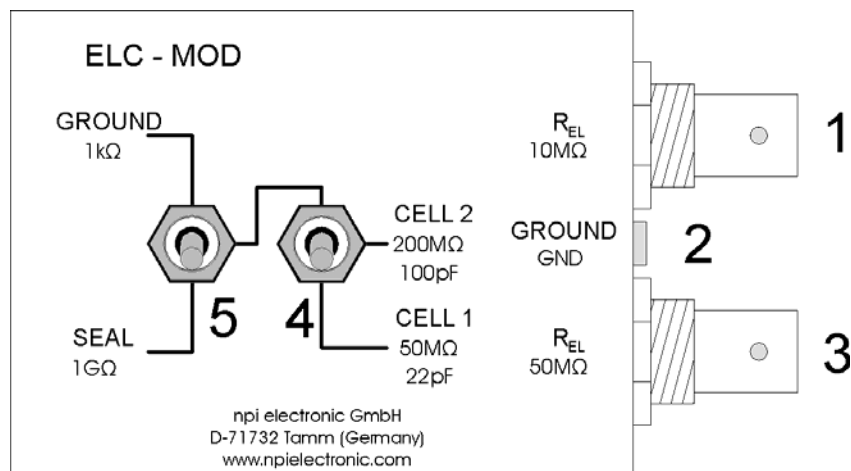

Figure 4: passive cell model
- Set switch #4, Figure 4 to the upper position.
- Set switch #5, Figure 4 to GROUND position. The 1 k $\Omega$  resistor simulates the resistance of the bath solution. This can be used to train cancellation of offsets, using the bridge balance and using the capacity compensation.
- Set switch #5, Figure 4 to SEAL position. The 1 G $\Omega$  resistor simulates the SEAL resistance when forming a GIGASEAL in patch clamp experiments.
Intracellular recordings can be mimicked with one of two cells with different properties. Use the 50 M $\Omega$  electrode connector (#3, Figure 4) for an experiment with sharp electrodes or the 10 M $\Omega$  electrode connector (#1, Figure 4) for simulating an experiment with patch electrodes.
- Switch the CELL membrane switch (see #4, Figure 4) to the desired position (CELL 1 or CELL 2).